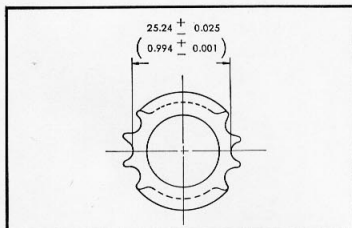

Figure 3-74. Timing sprocket teeth root contour
- (4) Left crankshaft sprocket root diameter. (Fig. 3.74)